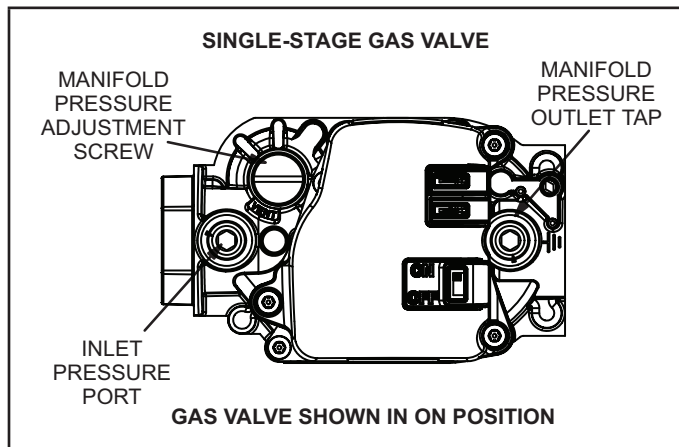

FIGURE 5
- 2 - Remove the heating compartment access panel. Move the automatic gas valve switch to the OFF position. See figures 5, 6 and 7.
- 6 - Move gas valve switch to OFF. See figure 5, 6 and 7.
- 7 - Wait five (5) minutes for any gas to clear out. If you then smell gas, STOP! Immediately call your gas supplier from a neighbor's phone. Follow the gas supplier's instructions. If you do not smell gas, go to the next step.
- 8 - Move gas valve switch to ON. See figures 5, 6 and 7.
When testing supply gas pressure, use the 1/8" N.P.T. plugged tap or pressure post located on the gas valve to facilitate test gauge connection. See figure 5 or 6. Check gas line pressure with unit firing at maximum rate. Low pressure may result in erratic operation or underfire. High pressure can result in permanent damage to gas valve or overfire.
- 1 - Connect test gauge to manifold pressure tap (figure 5) on gas valve.
- 4 - If necessary, make adjustments. Figure 5 shows location of adjustment screw.